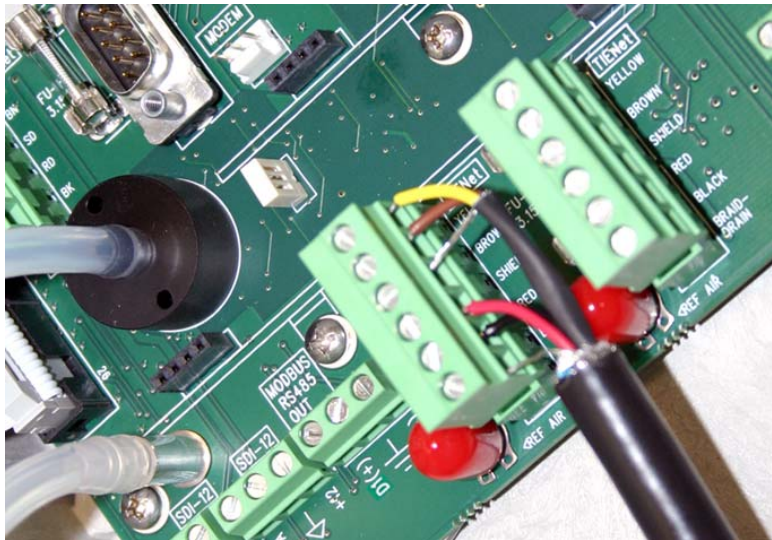

Figure 2-5 Position and secure the cable
5. Press the terminal strip back down into its socket on the case board, as shown in Figure 2-5, taking care not to strain any wire connections.